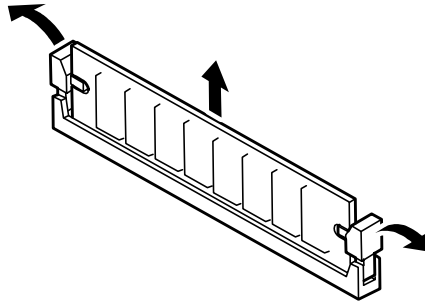

Figure 4-34. Removing Memory DIMMs
3. To remove each DIMM, gently spread the retaining levers (see Figure 4-34) just enough so that you can pull the top edge of the DIMM away from the levers.